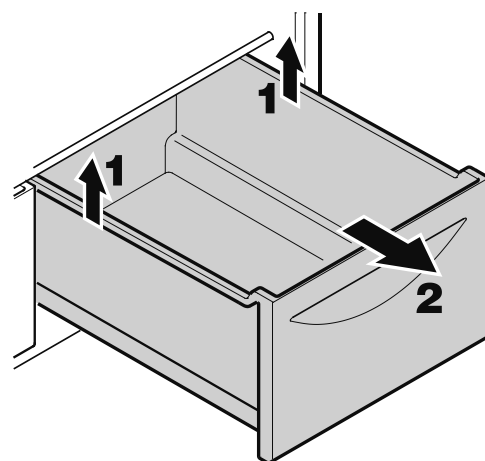

Figure 15
Pull the drawer straight out, grip at the back and lift out - **Figure 15.**
- Remove the vegetable drawers as shown in **Figure 15**.